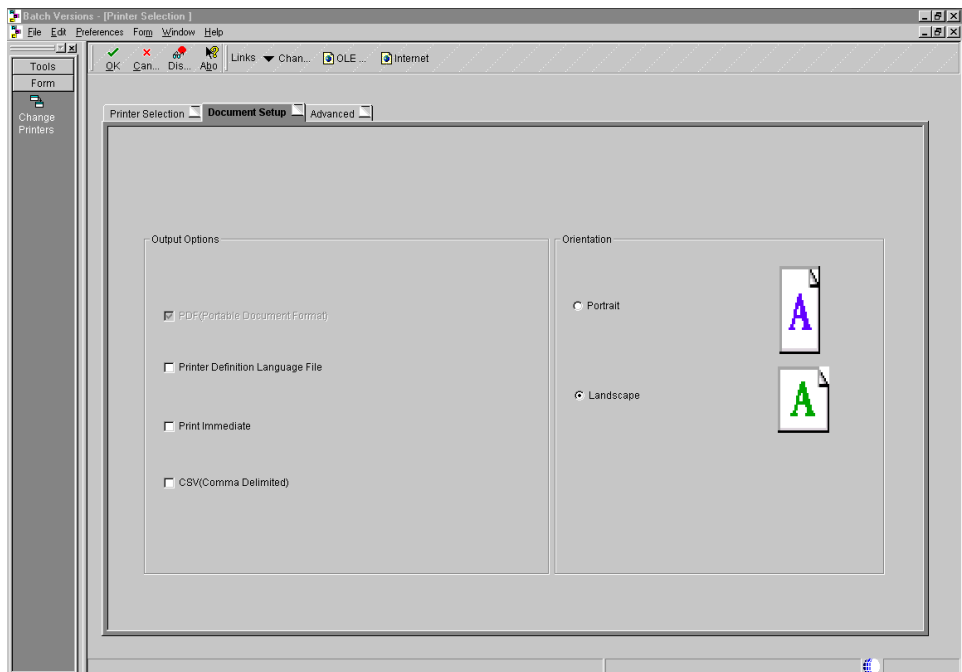

Figure 196. Printer Selection
5. In the Printer Selection window, the Printer Selection Tab displays the default printer for your user ID. You have the option of changing the printer to which your output will go by selecting change printers from the Form menu (Figure 196).